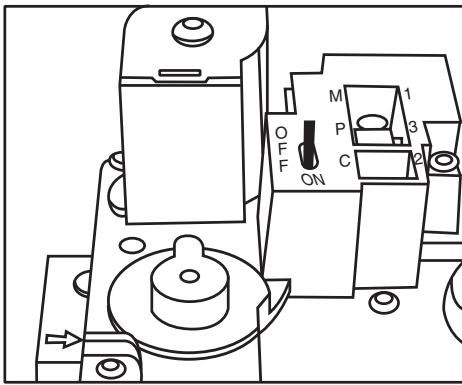

Fig. 9 - Control Switch to OFF
5. Turn control switch on the gas control to OFF position. See Fig. 9.